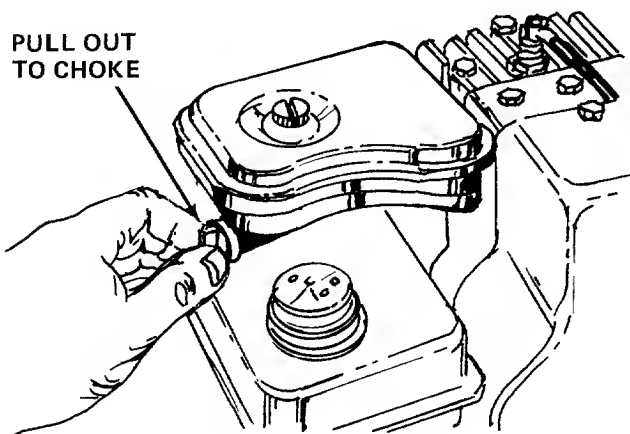

FIGURE 10
3. Pull the choke control out to **CHOKE** position if necessary. See figure 10.